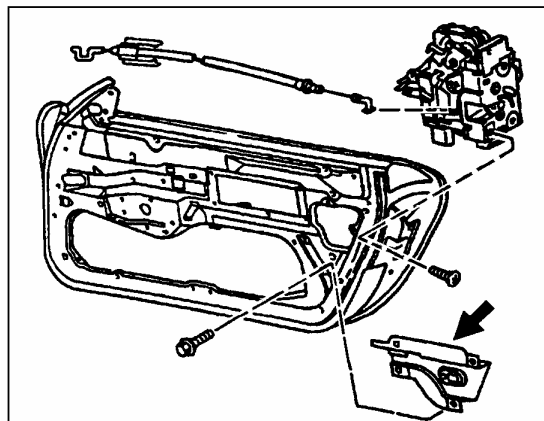

Figure 1
- 4 Remove mount (Fig. 1, arrow) from the door.